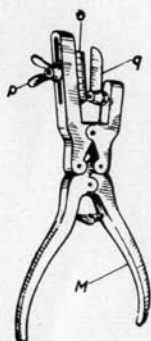

Fig. 33
- 9) Cut buttonholes in fabric, in required position, by means of cutter « M » (fig. 33). Cutting length can be varied between 17 mm. (0.66") and 40 mm. (1.57") and to obtain the desired value it is sufficient to set accordingly graduated scale « O » operating on wing nut « P ».